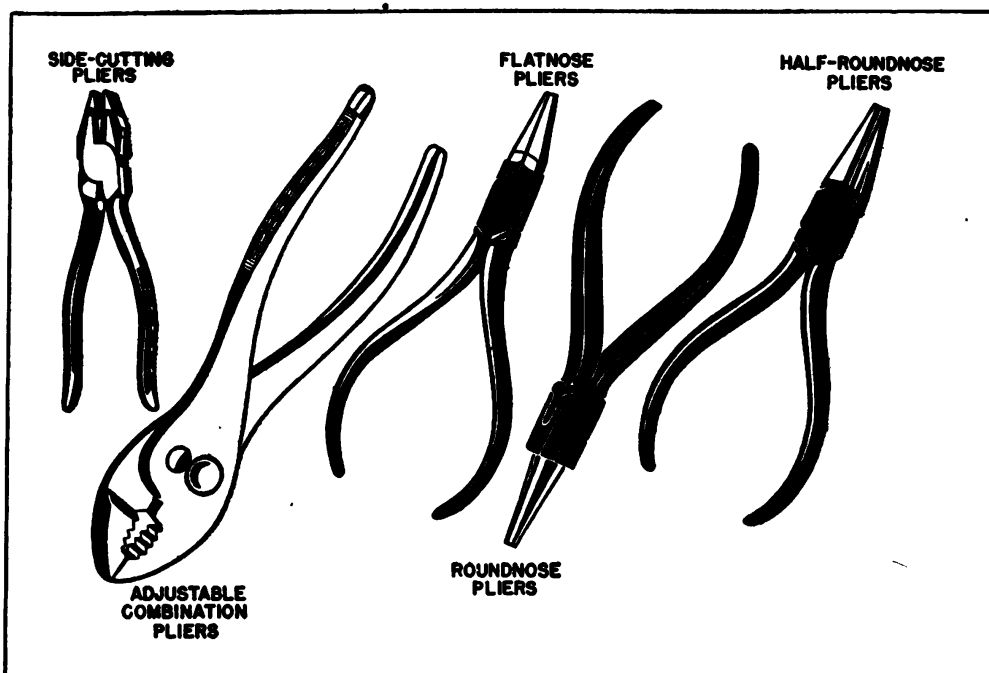

FIGURE 9.—Types of pliers.
(2) *Pliers*.—Figure 9 shows the commonly used types of pliers. Side-cutting pliers are used principally for holding and bending thin material, or for cutting wire. Adjustable combination pliers are general purpose tools used for holding flat or round stock and for cutting wire. The various lengths and shapes of flatnose, roundnose, and half-roundnose pliers make it possible to bend or form metal into a variety of shapes or to work in close spaces. Many special